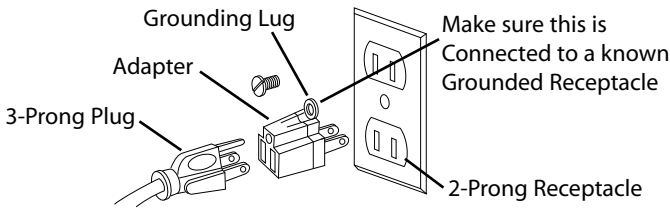

Figure 6 – 2-Prong Receptacle with Adapter
- A temporary 3-prong to 2-prong grounding adapter (See Figure 6) is available for connecting plugs to a two pole outlet if it is properly grounded.